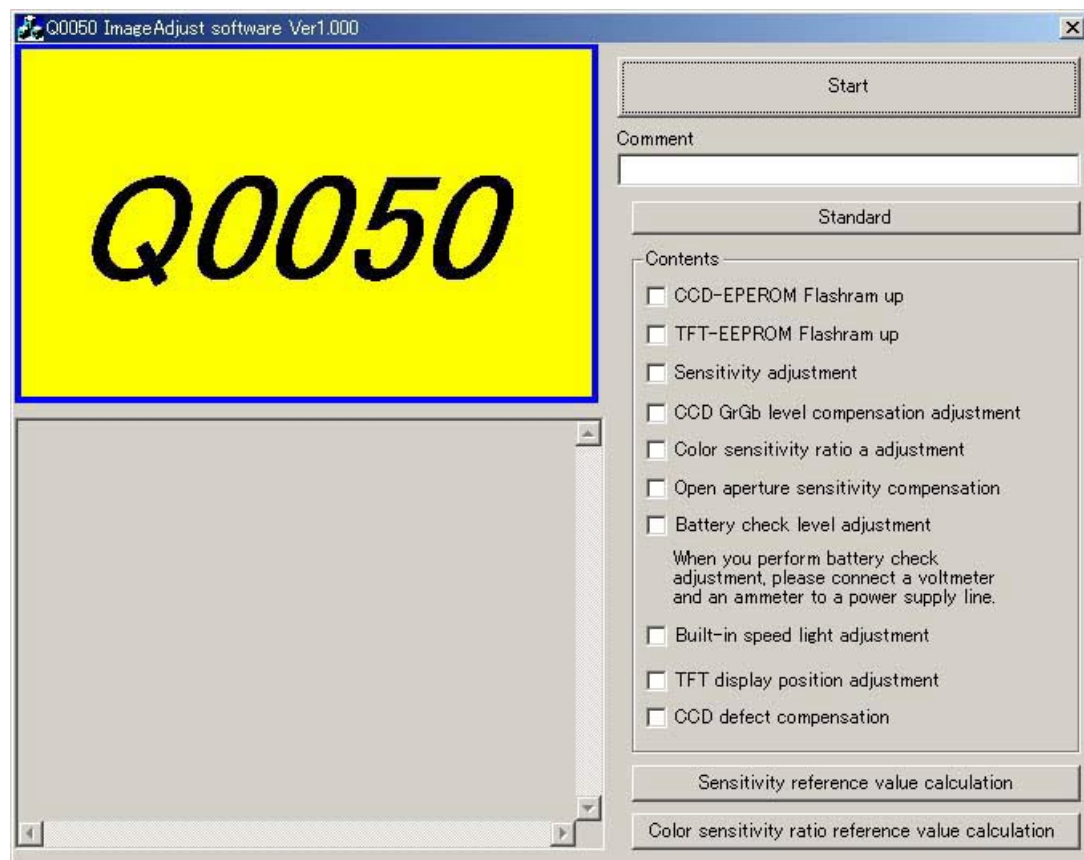

Fig.1
- (1) Execute "Q50ImageAdjustENG.EXE", and the main menu starts. (Refer to Fig. 1.)
- (2) Select an item to be executed in "Contents".
- (3) Click the START button with the mouse. The selected item is executed.
- (4) Hereafter, make adjustment according to the instructions on the screen.
- (5) To end the adjustment, click "X" on the upper right on the main menu with the mouse.